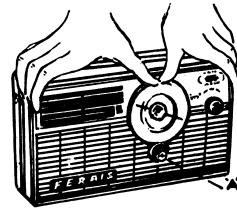

FIG. 4
1. Back off screw marked "A" by approx. 1/2 turn (see FIG. 4).